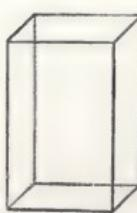

FIG. 50.
**87.** A **parallelopipedon** (Fig. 50) is a prism whose bases (ends) are parallelograms.